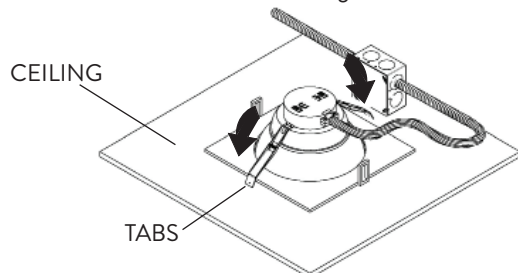

FIG. 6
- 4 Push until the rim presses flush against the ceiling. Release the retention Tabs to secure the fixture (Fig 6).